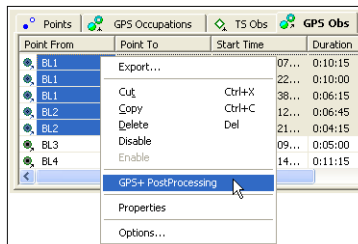

Figure 6-8. Process Selected GPS Observation(s)
2. In the *GPS Obs* tab, right-click the selected observation(s) and click **GPS+ PostProcessing** on the pop-up menu (Figure 6-8).